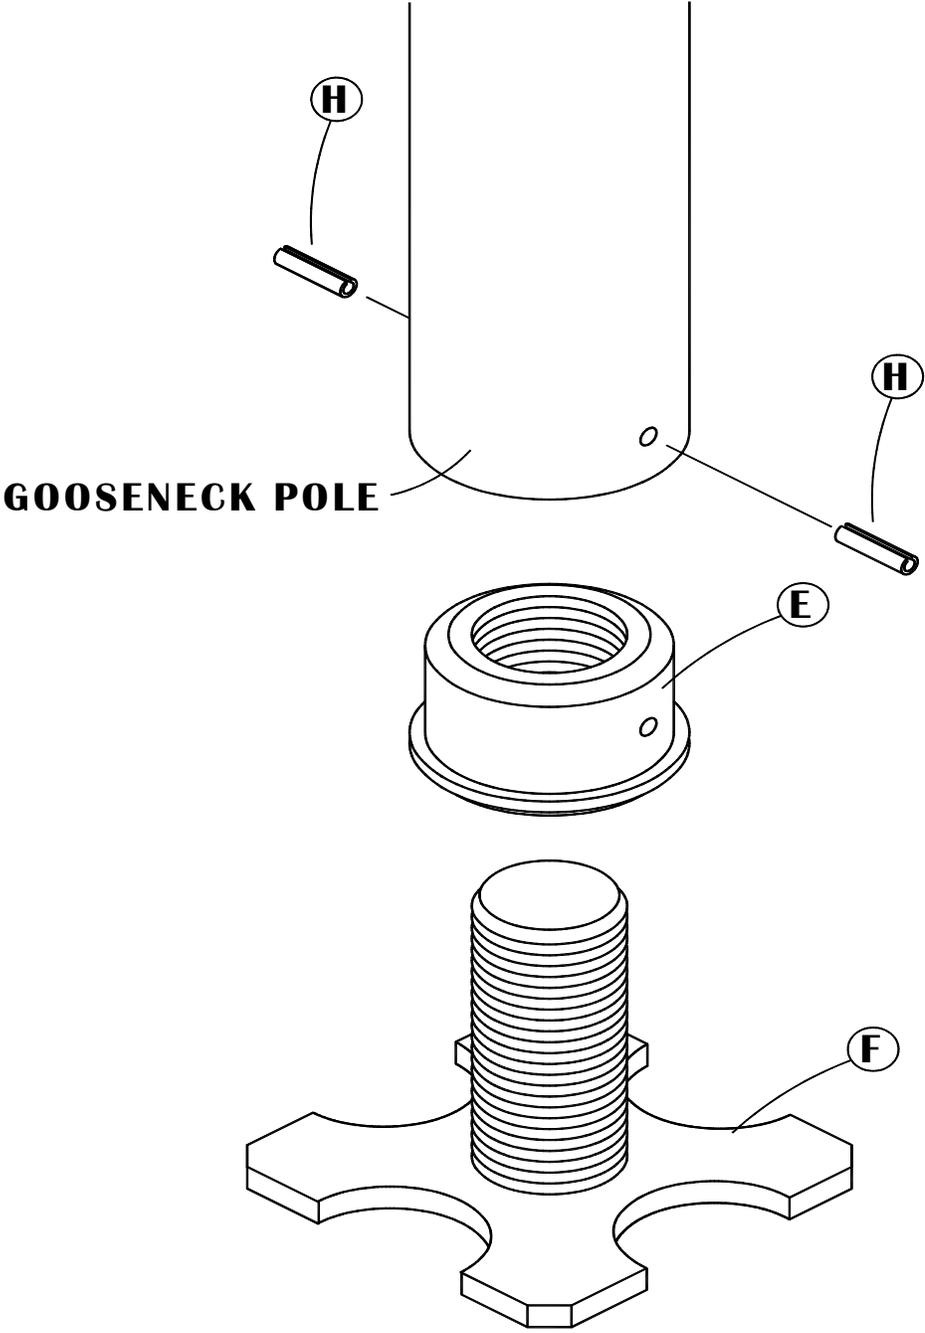

Figure 5
7. Insert the *Adjustment Nut* (E) into the bottom of the gooseneck pole. Using a 3/8" drill bit, drill 2 holes approximately 180° apart through the pole and about 1" into the adjustment nut. Stop drilling prior to reaching the internal threads of the nut. Drive the *Roll Pins* (H) through the pole and into the *Adjustment Nut* (E). Heavily grease all threaded areas. Screw the *Adjustment Screw* (F) completely into the *Adjustment Nut* (E). See Figure 5.